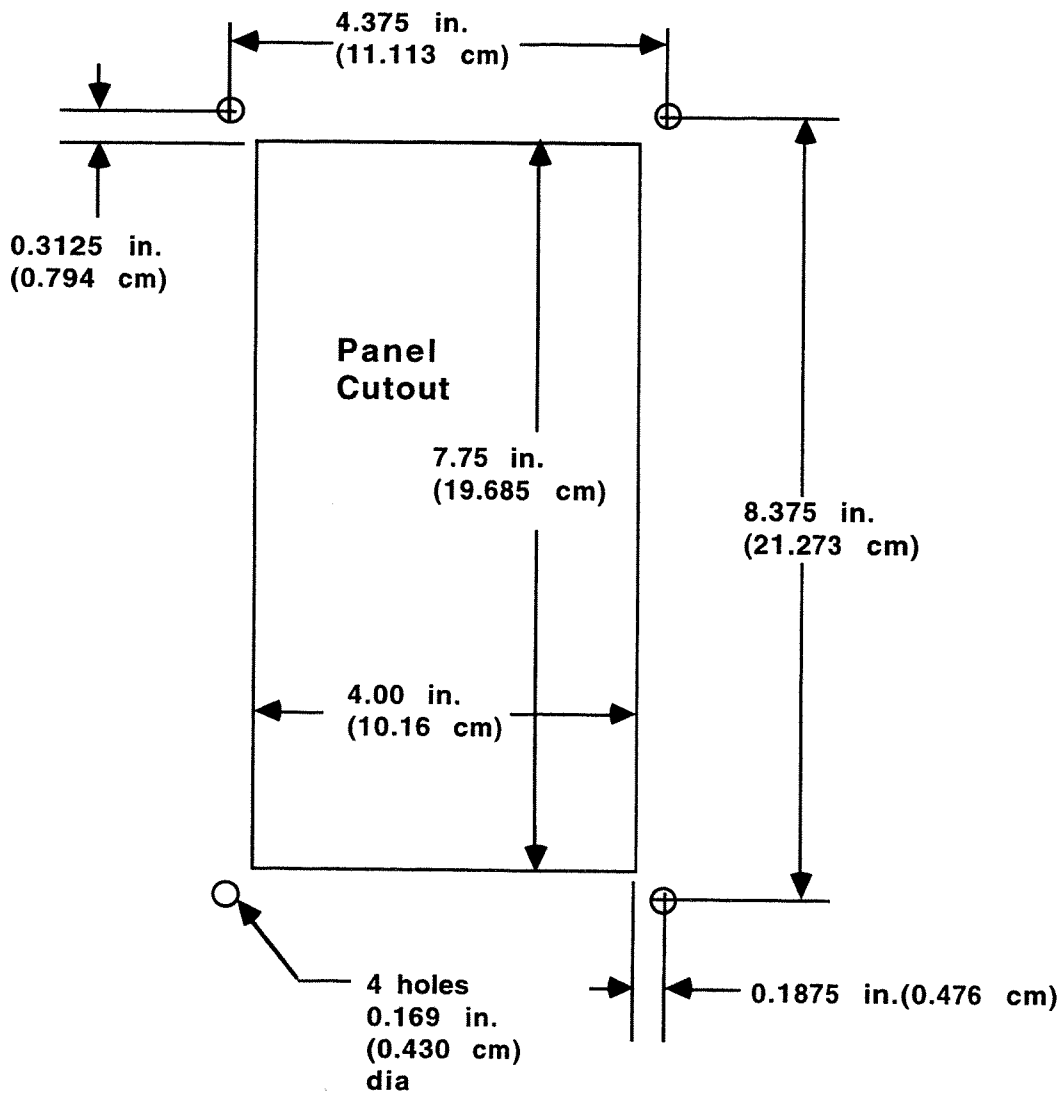

Figure 1. Panel Mounting Dimensions
1. Prepare the panel where the remote unit will be mounted. Cut a rectangular hole (4 in. by 7-3/4 in.) and drill four holes (0.169 in. dia) in the panel. Dimensions are shown in Figure 1. A template for positioning these holes is included at the end of this manual.